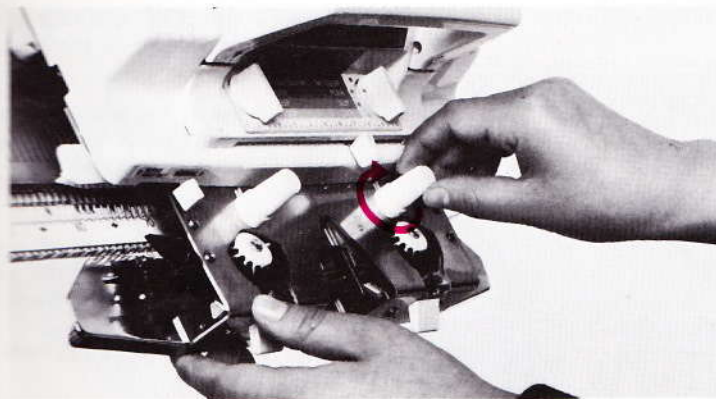

Fig. 8
- Release the holding spring of the fabric press (in the box-cover) and lift the fabric press out. Slip it under the 2 white knobs and secure it firmly to the carriage by tightening these knobs (fig. 8). You will find a brass flange underneath the white knobs which fits into the round space on the fabric press to ensure correct positioning.